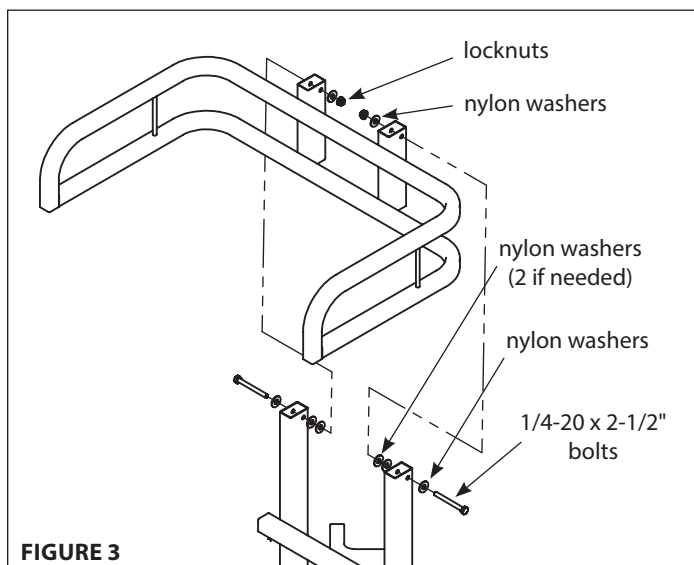

FIGURE 3
1. Attach the seat frame weldment (CXR15) to the seat post (CXR14) using (2) provided 1/4-20 x 2-1/2" bolts, locknuts and (6 to 8) nylon washers. **SEE FIGURE 3. DO NOT tighten all nuts and bolts completely!**